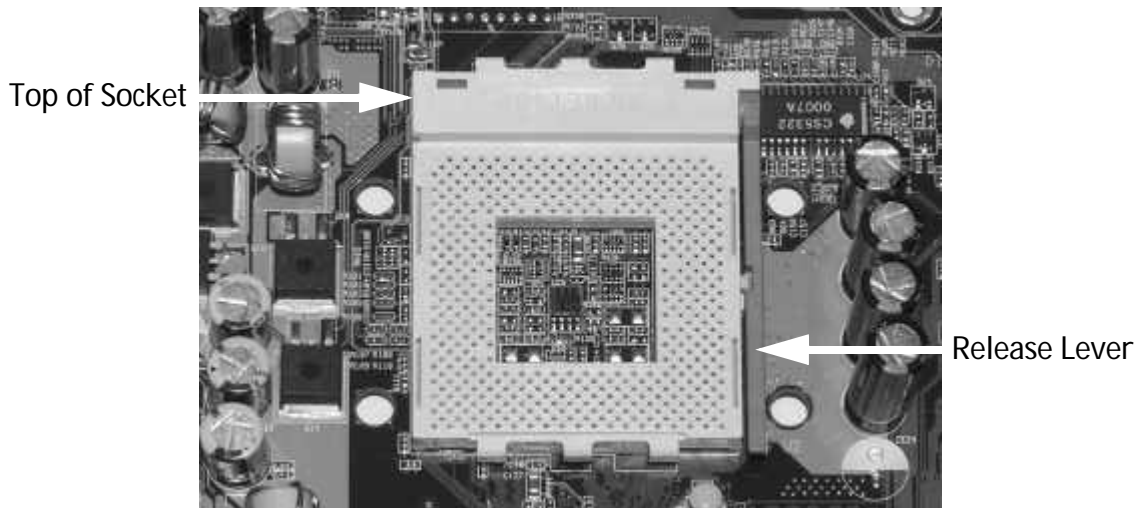

Figure 1. Processor Socket with Lever Down.
1. Figure 1 shows the processor socket on a motherboard. Note that the release lever on the side of the socket is down. This position is used to lock the processor in place. Before installing the processor, this lever must be raised by first pushing the lever sideways to unlatch it and then raising it all the way up (approximately 90°).